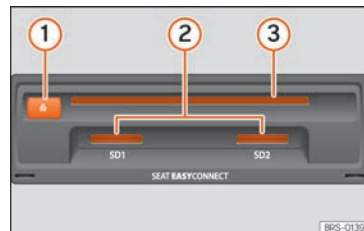

Fig. 213 Slots for data storage devices in the glove compartment.
» » Fig. 213 ③ to the point where it is drawn in automatically.
Insert the compatible memory card, bevelled edge first and with the label face up (contacts face down), into slot » » Fig. 213 ② or » » Fig. 188 ⑨, until properly inserted.